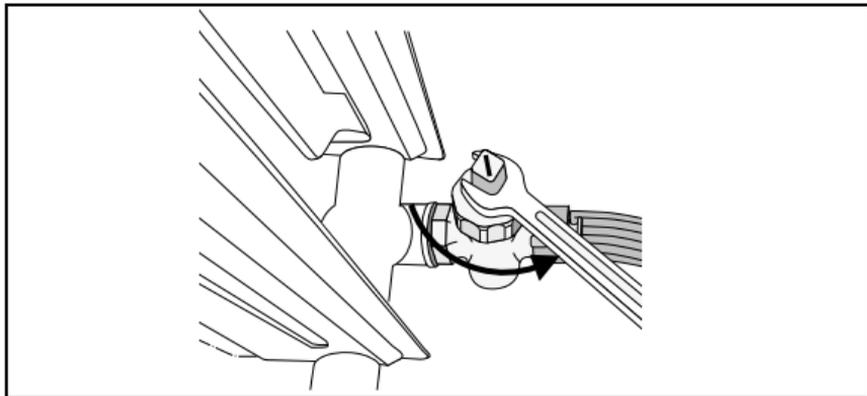

fig. 9 Draining the system
- Drain the system at its lowest point using the stop valves or radiator (see fig. 9). The automatic air vent at the system's highest point must be open.